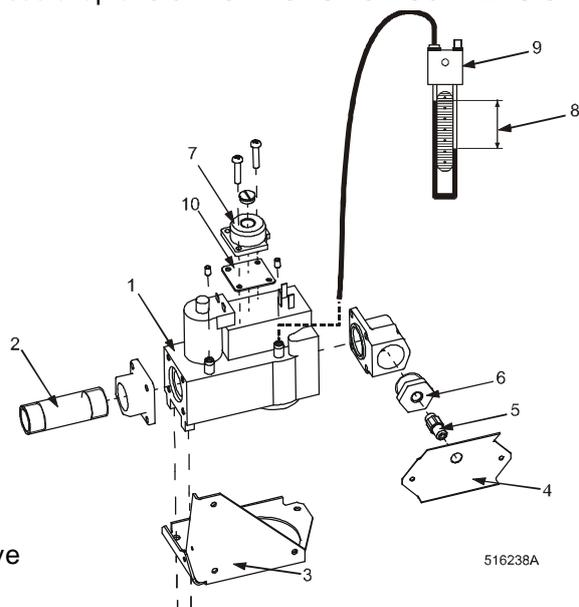

Fig.8.6.2. Gas shut off valve
- Unscrew the bolts fixing the gas valve to the holder (fig.8.6.2., pos.3).
- Remove the valve out of machine. Replace the nozzle (fig.8.6.2., pos.5). Size of nozzle according to **appendix 530762**.
- Unscrew the regulator from the gas valve (fig.8.6.2., pos.7) or covering plug (fig.8.6.2., pos.10) and install the plug (or regulator - part of the machine supply).
- When the gas regulator is installed, set required pressure on the nozzle with the machine running, using manometer (fig.8.6.2., pos.8 and 9) according to **appendix 530762**.